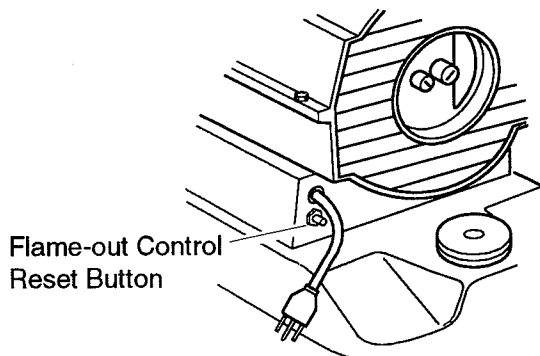

Figure 5 - Flame-out Control Reset Button, Models 2E510D and 2E511C
5. Plug extension cord into standard 120 volt/60 hertz, three-hole, grounded outlet. Heater will start when extension cord is plugged into outlet. If not, push in flame-out control reset button (see Figures 5 and 6).